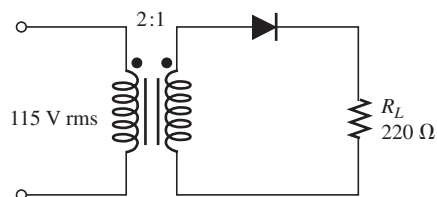

FIGURE 2-74
2. Determine the peak voltage and the peak power delivered to R_L in Figure 2-74.